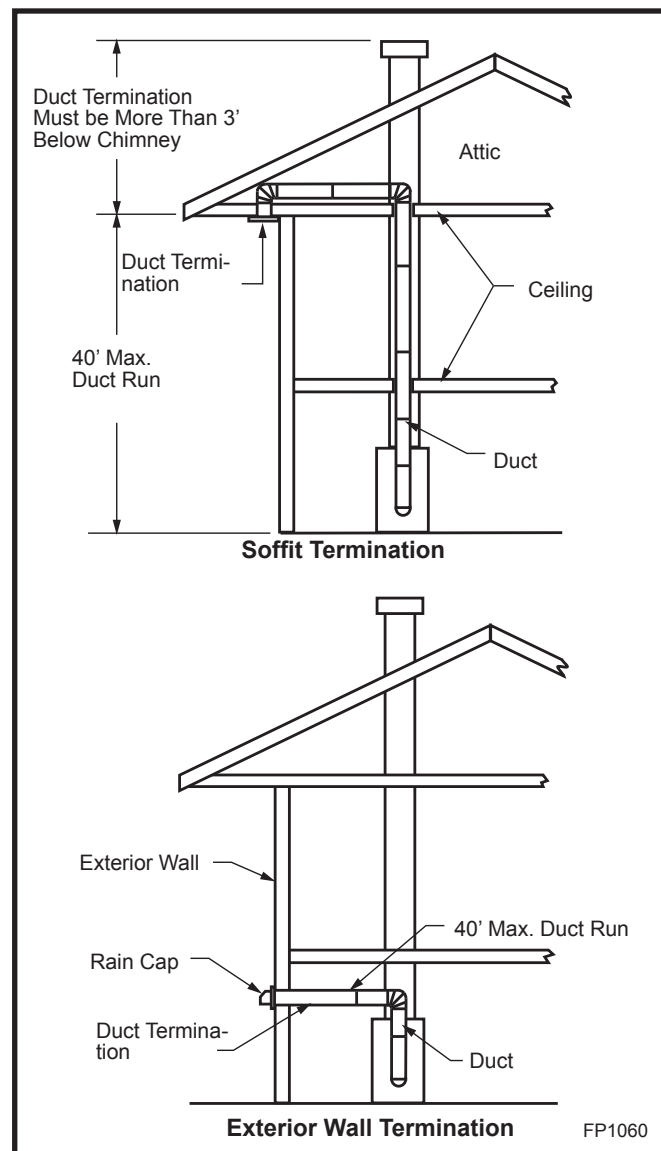

Fig. 13 Typical installations.
Duct run must be limited to a maximum distance of 40 feet from the fireplace pipe collar to duct termination. This will provide the least restriction to air flow. No more than four (4) 90° elbows can be used. Duct run may be horizontal, vertical, inclined or any combination of these. Vertical duct runs must be at least three (3) feet below the fireplace chimney flue exit. (Fig. 13) You are now ready to install the AK-MST Outside Air Kit.